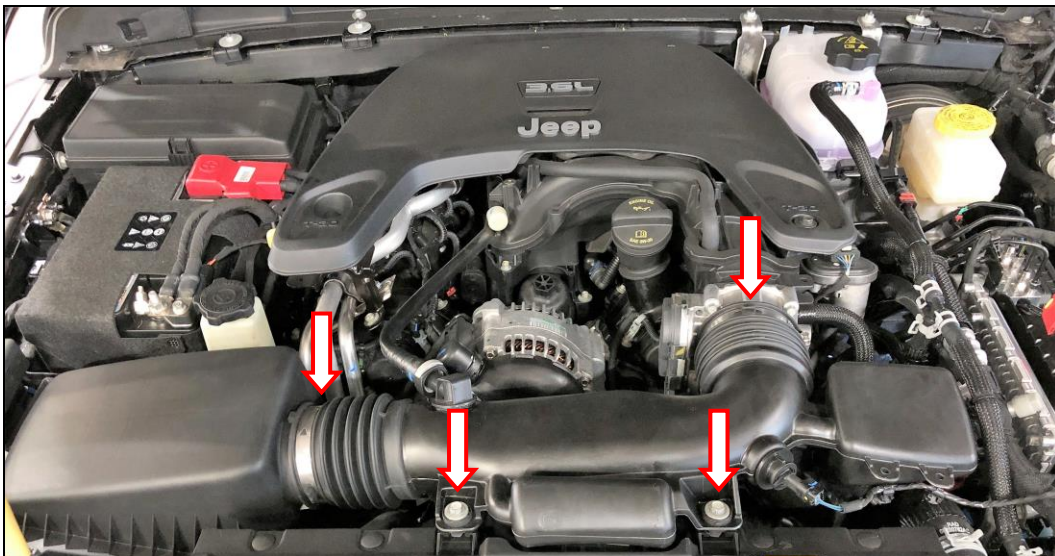

Figure 2
5. Remove the (x2) bolts securing the OE intake tube to the radiator shroud. (**Figure 2**).
6. Loosen the (x2) hose clamps securing the intake tube to the throttle body and OE air box. Remove intake tube (**Figure 2**).